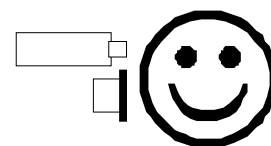

Figure 20 Ipsilateral test
Set the desired volume level with the Down-key ⑩ respectively the Up-key ⑪. On the LCD display ⑤ below the reflex boxes at the bottom the selected level in dB (in example figure 20, 80 dB) appears. The "I" indicates that an ipsilateral test is selected. You can choose between the fixed levels 70, 75, 80, 85, 90, 95 and 100 dB_{HL} and AUTO with a starting level of 70 or higher. If you choose AUTO the MI 44 starts with the lowest level 70 dB_{HL} or higher and increases the level automatically until a reflex is registered or the maximum value is reached. You can choose your